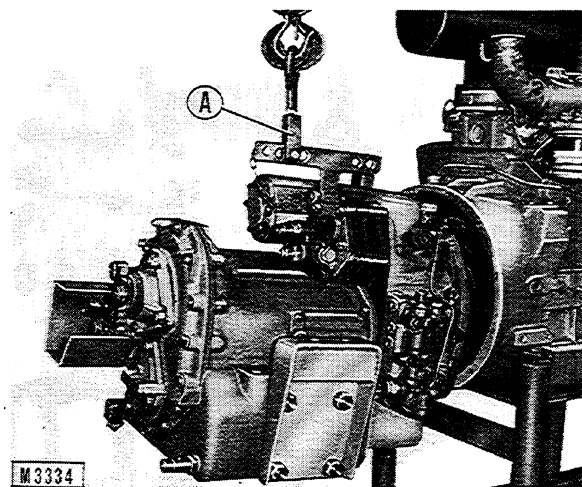

Fig. 3-3 - Removing (installing) transmission from engine.
- Support assembly using hook 75296618 (A, fig. 3-3) and take up slack in chain.
- Loosen screws connecting transmission to flywheel housing and remove assembly (fig. 3-3).